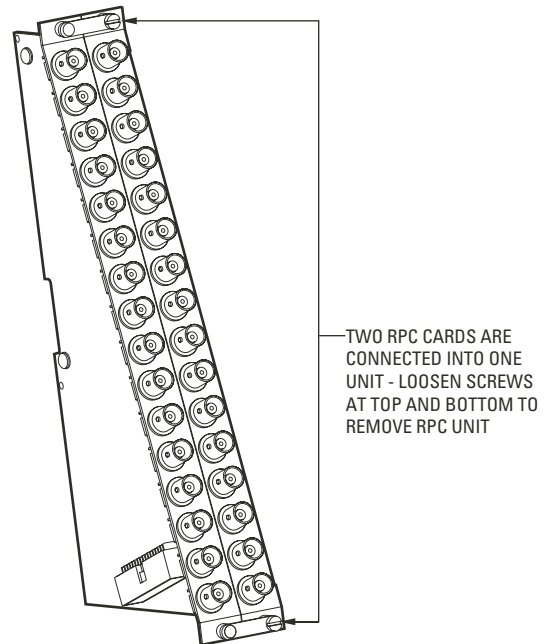

Figure 7. Remove a Rear Panel Video BNC Card (CM9770-RPC)
1. Loosen the screws at the top and bottom of the BNC card. Refer to Figure 7.